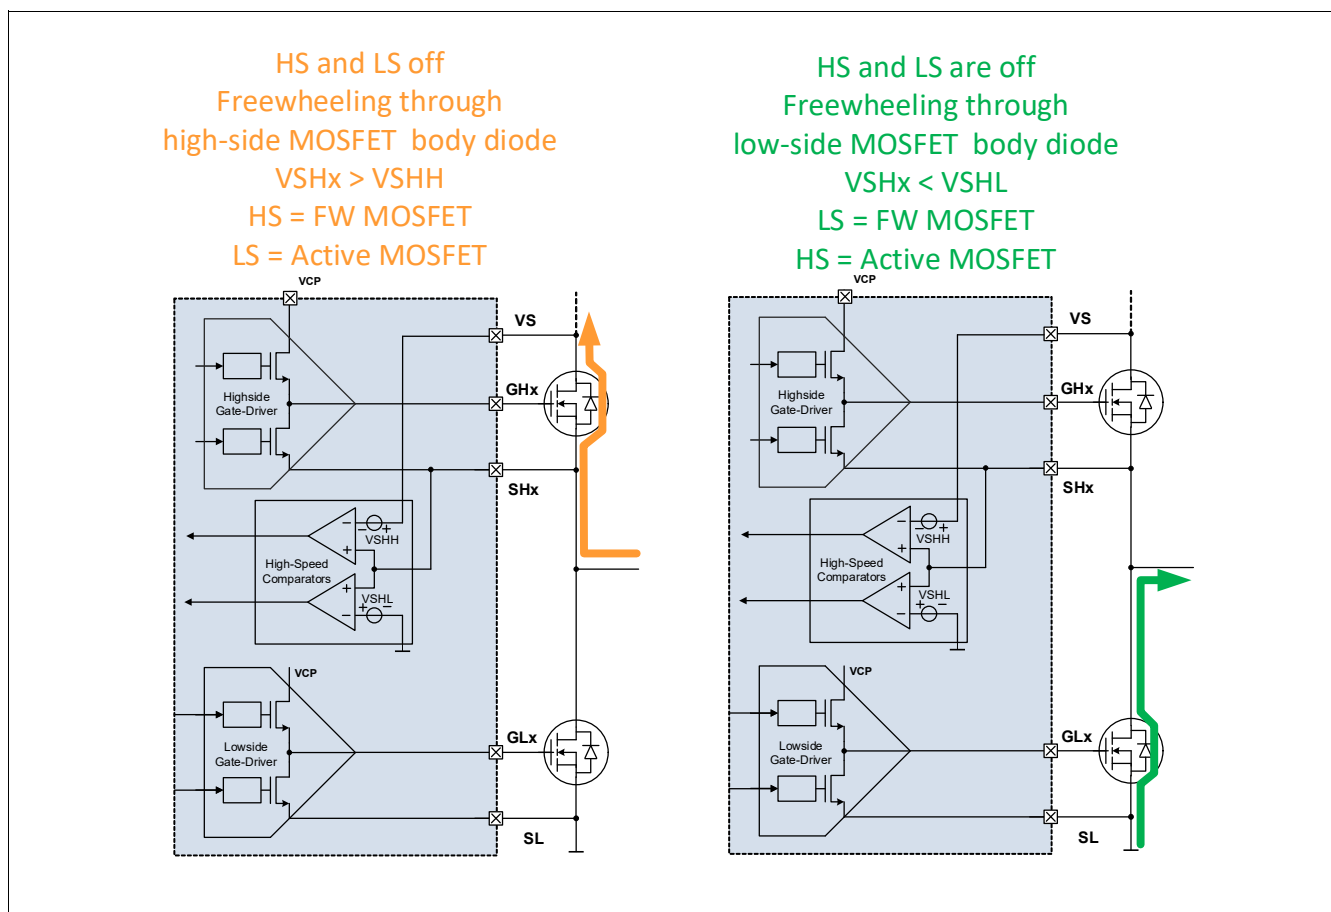

Figure 46 Detection of the active and FW MOSFET (**EN_GEN_CHECK** = 1)- Principle
If **EN_GEN_CHECK** = 1, right before each MOSFET activation, the device detects which MOSFET of the half-bridge is the active MOSFET and which MOSFET is the free-wheeling (FW) MOSFET (**Figure 46**):